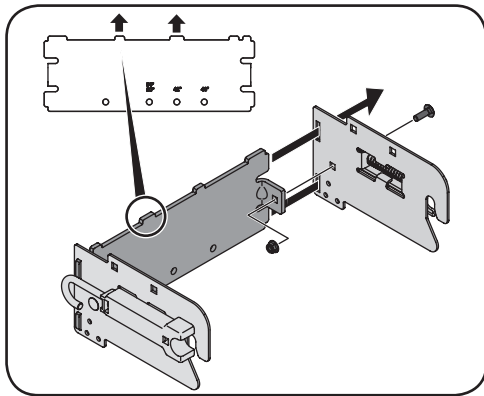

Figure 4-1
1. Insert the ends of the rear support bracket through the narrow slots at the rear of each side support bracket. See Figure 4-1.
2. Secure folded tabs on rear support bracket to side support brackets with a carriage screw (ref. #7) and nylon lock nut (ref. #9). See Figure 4-1.
NOTE: The latches on the side support brackets must be positioned with the opening facing down on the outside of the bracket and the tabs on the rear support bracket must be facing up. See inset in Figure 4-1.